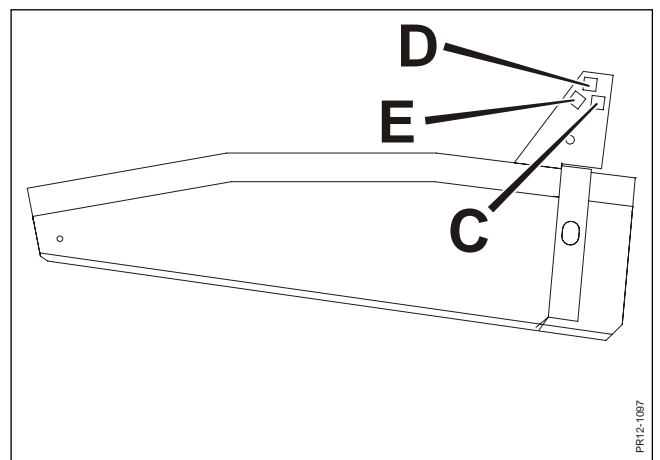

Fig. 3-13
**Fig. 3-13** On the deflector there are 3 mounting possibilities: **C**, **D** and **E**. Mounting at **C** provides the best movement of the deflector when driving with FCT 1050.